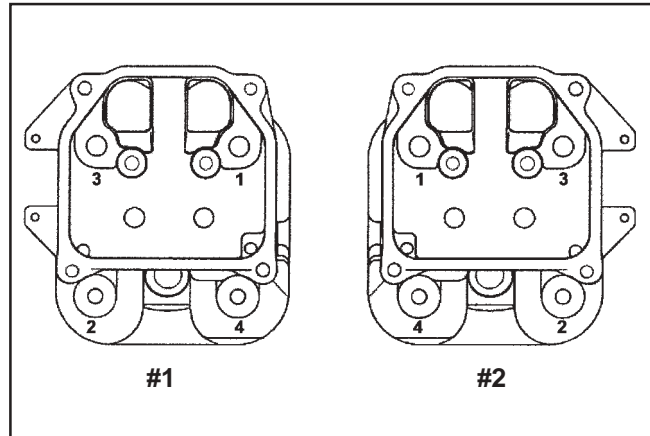

Figure 11-42. Cylinder Head Fastener Torque Sequence.
4. Torque the hex flange screws in two stages; first to **22.6 N·m (200 in. lb.)**, finally to **41.8 N·m (370 in. lb.)**, following the sequence in Figure 11-42.
5. Lightly lubricate the exposed (upper) threads of the studs with engine oil. Install a flat washer and hex nut onto each of the mounting studs. Torque the hex nuts in two stages; first to **16.9 N·m (150 in. lb.)**, finally to **33.9 N·m (300 in. lb.)**, following the sequence in Figure 11-42.